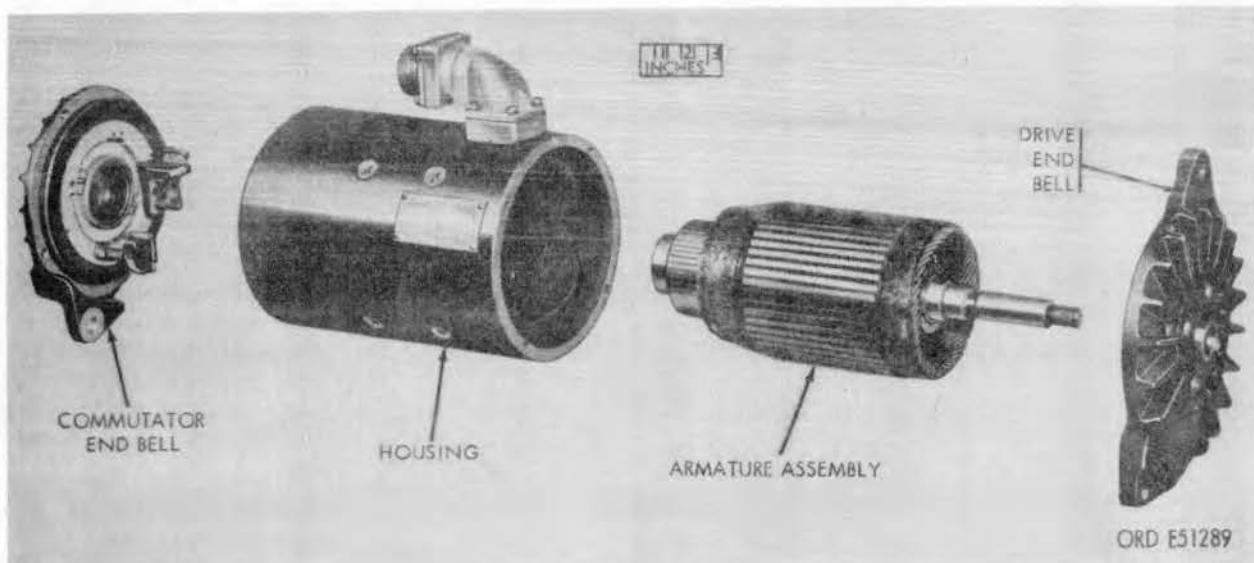

FIGURE 7. GENERATOR - EXPLODED VIEW.
18. DISASSEMBLY INTO SUBASSEMBLIES (Fig. 7)